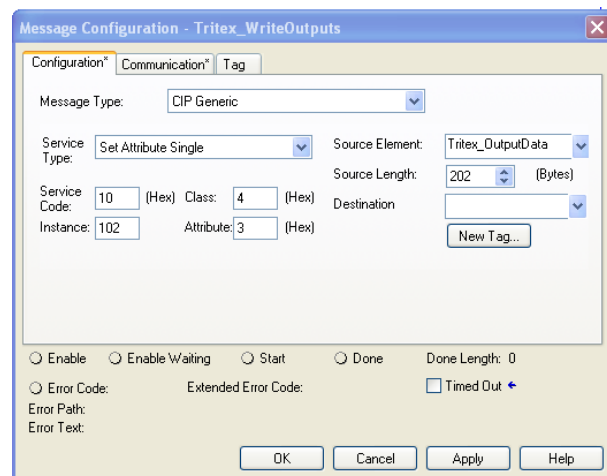

Figure 33 – Set Message Configuration Properties
4. Configure Message Configuration parameters. See figure 33 and 34.